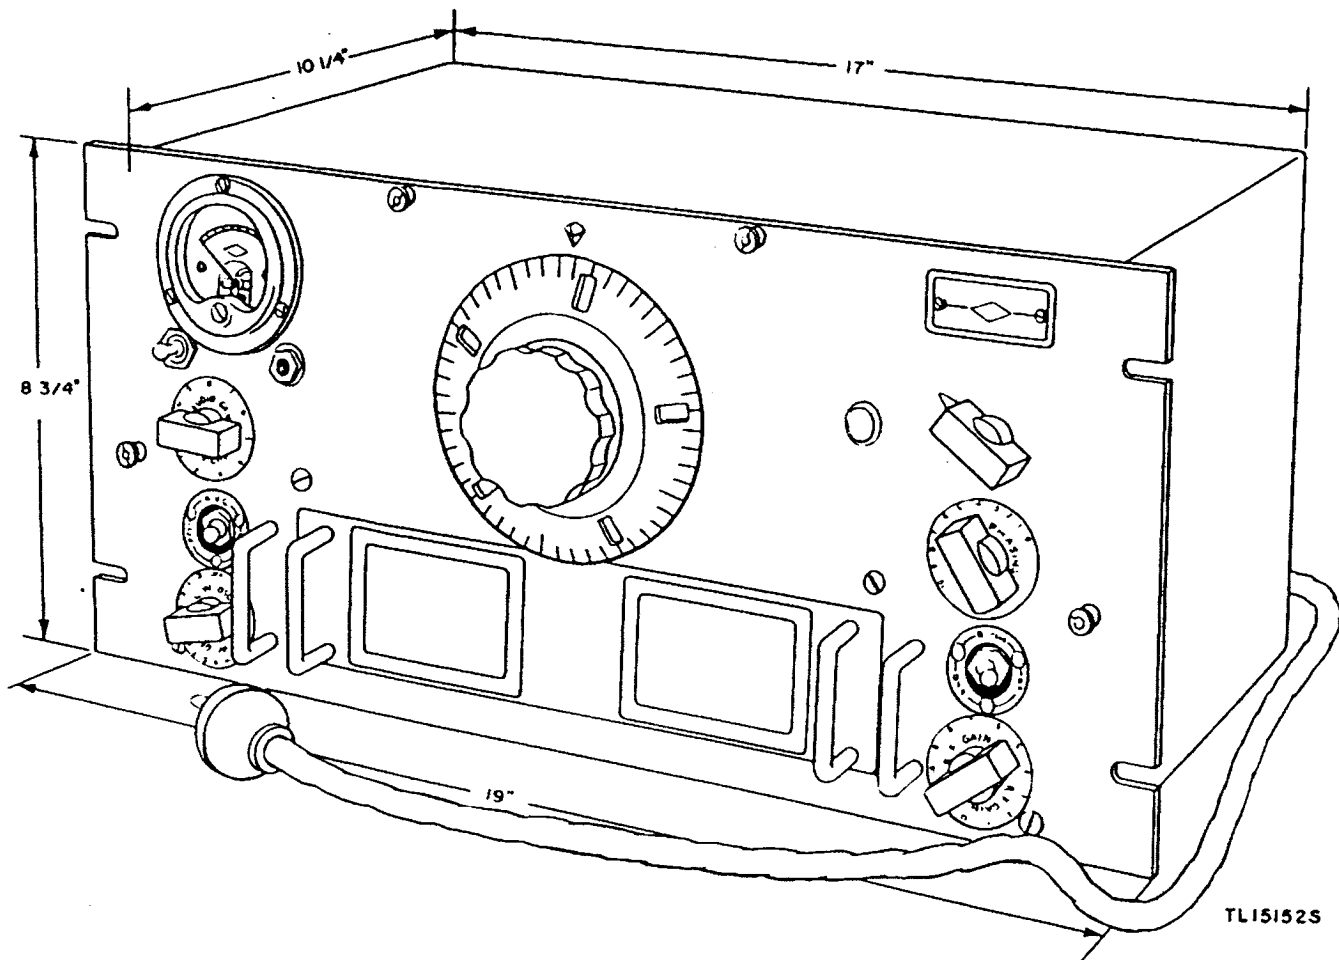

Figure 4. Radio Receiver R-140/FSM-1—outline dimensional drawing.
5. Packaging Data (figs. 4, 5, and 6)